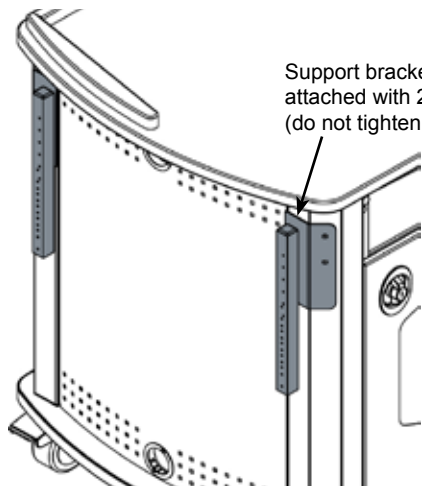

Figure 1
1. Attach the left and right support brackets to the LINK cart as shown using (2) 1/4-20 x 20mm JC bolts per bracket. **Figure 1.**